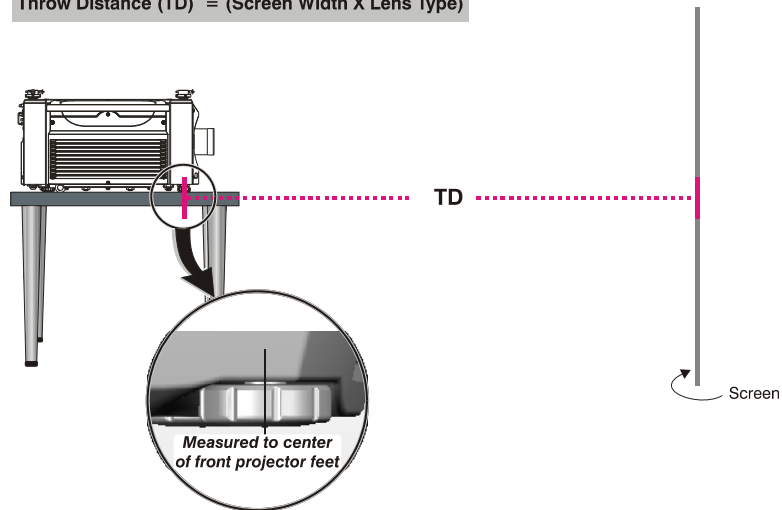

Figure 2.19. Estimating Throw Distance (SEE APPENDIX D)
For any installation, an accurate throw distance (TD) must be determined in order for the image to be of the right size for your screen—the farther the projector is from the screen, the larger the image. Throw distance is the distance between the projector’s front feet axes and the screen (Figure 2.19), and is roughly equal to the horizontal width of the screen multiplied by the throw ratio of the installed lens. Once you know your screen size and lens, you can estimate throw distance needed. For example:
- Throw Distance (TD) = **10** feet x **0.7** = 7 feet